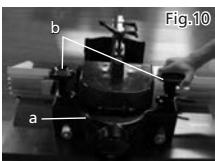
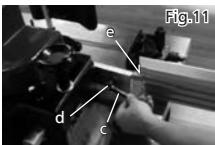

Fig.10
Fig.11
1. Install the fence by placing the main fence casting (FIG.10-A) on the table surface.
2. Use the two locking handles (B) provided to secure the fence casting to the table by threading the handle into the holes in the table located slightly behind the spindle opening.
3. Attach the laminated aluminium section fence halves by placing one flat washer (not shown) over the fence lock knob (Fig.11-C), insert the handle through the hole (D) in the bar (E) of the fence, and thread into the bracket on the back of the laminated aluminium section fence half.